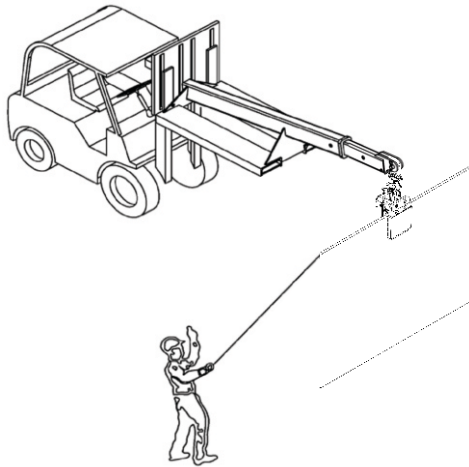

Figure 4.1
Step 4: Remove the lifter out of the stone slab (Figure 4.1)